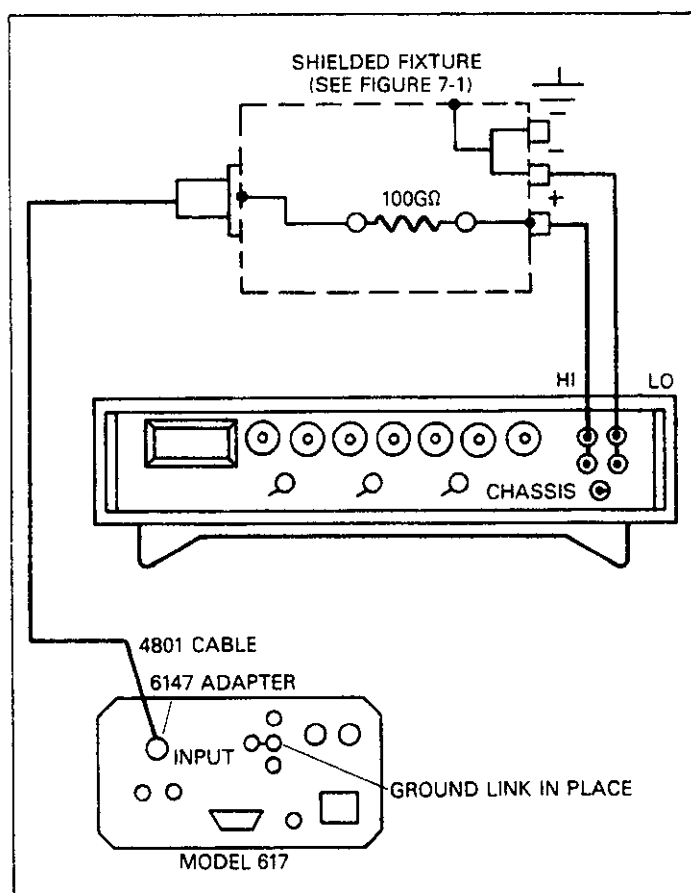

Figure 7-4. Connections For Amps Calibration (20pA)
2. Connect the DC calibrator and 100GΩ resistor to the Model 617, as shown in Figure 7-4. Note that the resistor is to be placed in a shielded enclosure, as shown on the diagram. (See Figure 7-1 for recommended shield).